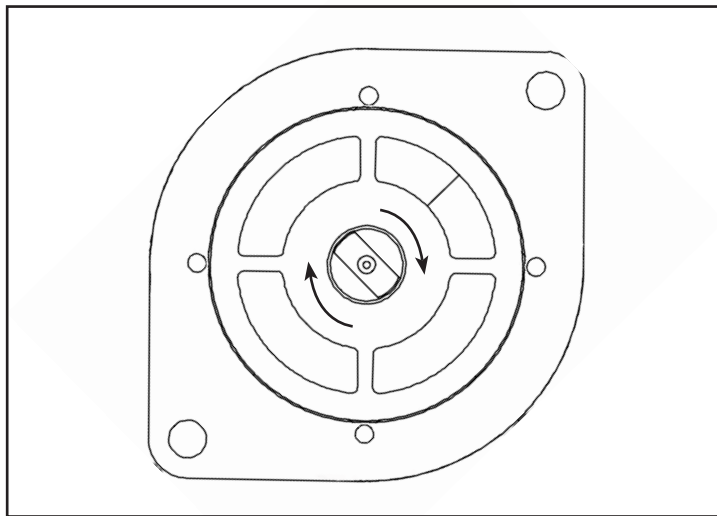

Figure 5-1 - Drive Shaft Rotation (CW)
- (1) Turn the starter drive shaft by hand several turns clockwise (CW) as viewed from the drive-end, see Fig. 5-1.
- (2) Using an inch-pound torque wrench with suitable tool attached, slowly rotate the shaft (CW) through 360°. The indicated torque must be 5 lbf · in or less. The starter must be repaired or overhauled if the rotational torque is not within tolerance.